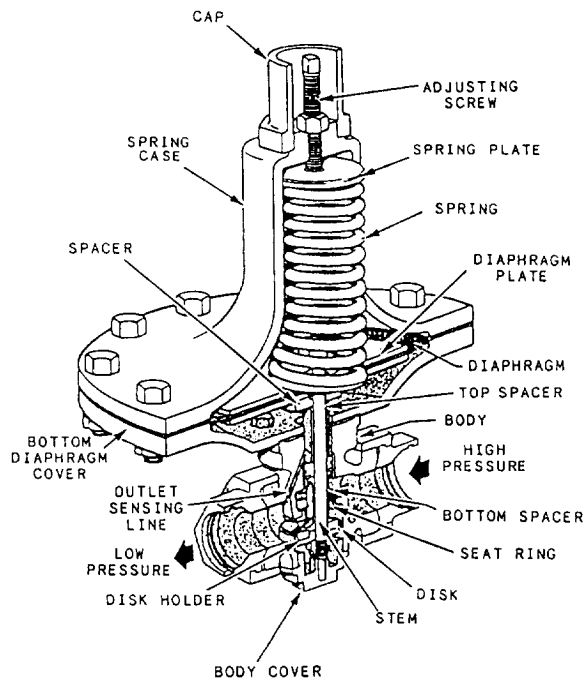

Figure 9-25.—Pressure-reducing (spring-loaded) valve.
**SPRING-LOADED REDUCING VALVES.**— Spring-loaded reducing valves, one type of which is shown in figure 9-25, are used in a wide variety of applications. Low-pressure air reducers and others are of this type. The valve simply uses spring pressure against a diaphragm to open the valve. On the bottom of the diaphragm, the outlet pressure (the pressure in the reduced pressure system) of the valve forces the disk upward to shut the valve. When the outlet pressure drops below the set point of the valve, the spring pressure overcomes the outlet pressure and forces the valve stem downward, opening the valve. As the outlet pressure increases, approaching the desired value, the pressure under the diaphragm begins to overcome spring pressure, forcing the valve stem upwards, shutting the valve. You can adjust the downstream pressure by removing the valve cap and turning the adjusting screw, which varies the spring pressure against the diaphragm. This particular spring-loaded valve will fail in the open position if a diaphragm rupture occurs.